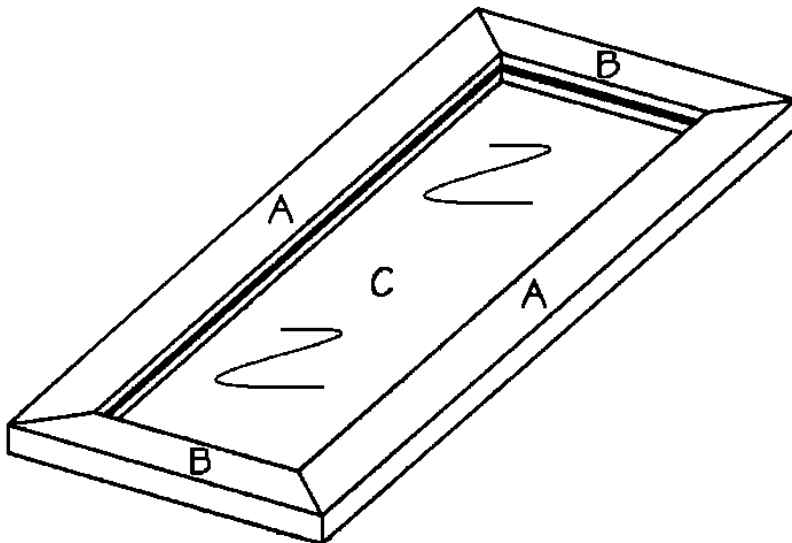

Figure 3
6. Place two vertical sides (A) on a level surface, parallel to each other and 5-1/2" apart, as shown in *Figure 3*. Fit two horizontal sides (B) between the ends of the vertical sides (A), matching miters. Fit one side glass (C) into the dados cut in all four sides. Make certain that the assembly is square. Apply glue to the miters, and use corrugated fasteners across each of the corner joints to secure them. You may choose to clamp these pieces together while you drive 1-1/2" 4d finishing nails into the edge near each corner and across the miter joint. Use two opposing nails at each joint.
6. Place the two doors sides (G) on a level surface, parallel to each other and 14-7/8" apart, in the same manner as shown in *Figure 3*. Fit two door top/bottoms (H) between the ends of the door sides (G) matching miters. Fit one door glass (I) into the dados cut in all four pieces. Make certain that the assembly is square, and use corrugated